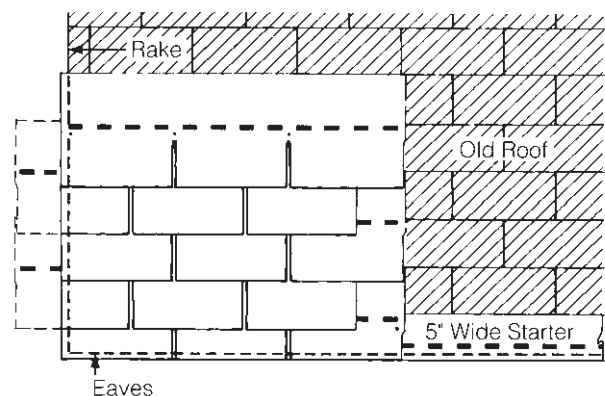

Figure 12-22: Vertical Racking, Nested.
2. Cut 6" off one side of the first starter shingle and install the 30" piece over the first course of the old shingles, at the lower left corner. This, and all other shingles, must nest with the butt edges of the old shingles (*Figure 12-22*).
2. Align the top edge of the 10" strips so they butt up (nest) against the tabs of the shingles in the old third course (*Figure 12-22*).
1. Cut 6" off the left end of a full shingle. Nest the top edge of this new 12" by 30" piece of shingle up against the bottom edge of the shingles in the old fourth course (*Figure 12-22*).
1. Begin the application of succeeding courses by alternating the use of full shingles and 30" shingles (6" off the left end) up the rake in a single column (*Figure 12-22*).